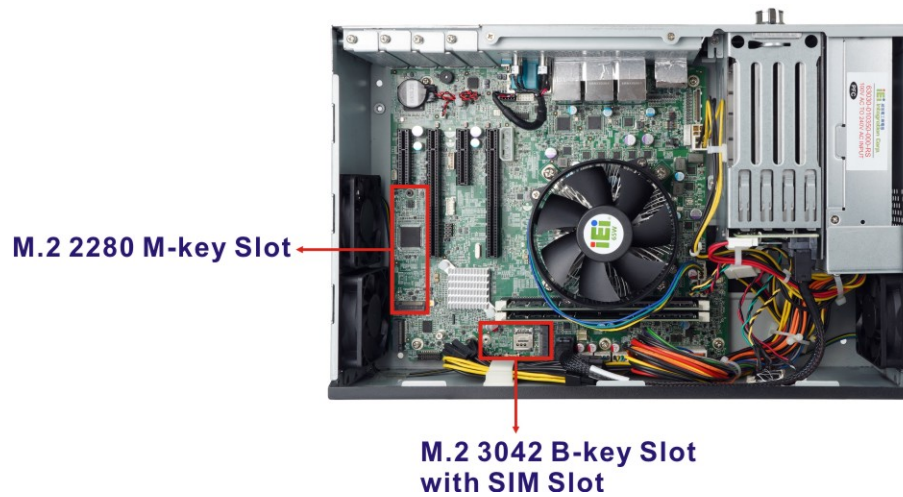

Figure 3-7: M.2 Slot Locations
Step 2: Locate the M.2 slot as shown in Figure 3-7.